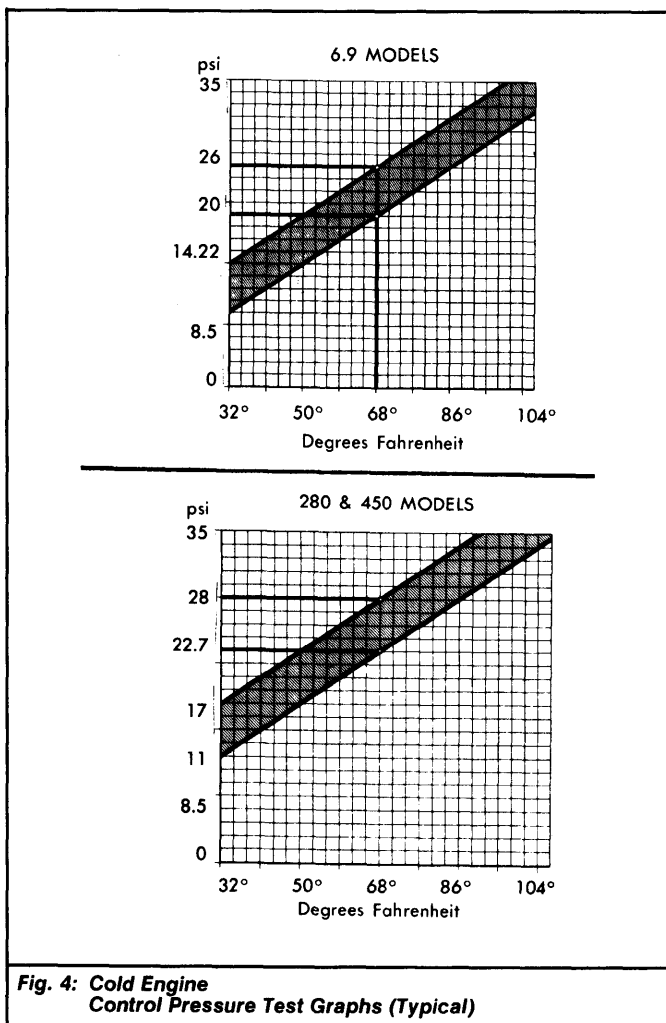

Fig. 4: Cold Engine Control Pressure Test Graphs (Typical)
2) Open valves for lines "A" and "B" on tester. Start engine and allow it to idle. Quickly read control pressure. Pressure should be as specified in COLD ENGINE CONTROL PRESSURE TEST table. See Fig. 4. If pressure is incorrect, replace control pressure regulator.
1 – With temperature at 68°F (20°C). If temperature is higher, pressure will be considerably higher. If temperature is lower, pressure will also be lower. See Fig. 4.